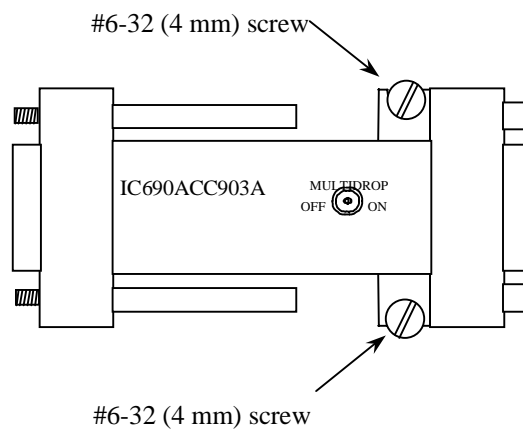

Figure 2. Port Isolator Mounted to Panel
The Isolator is packaged in a plastic enclosure designed for either (1) direct attachment to a serial port or (2) attachment through the optional IC690CBL003 12" extension cable for panel mounted applications. Two M3 thumbscrews secure the Port Isolator to its mating connector. If panel mounting the Isolator using the optional extension cable, you will need to provide the two 6-32 x 3/8" (4 x 9 mm) mounting screws (see Figure 2 below).